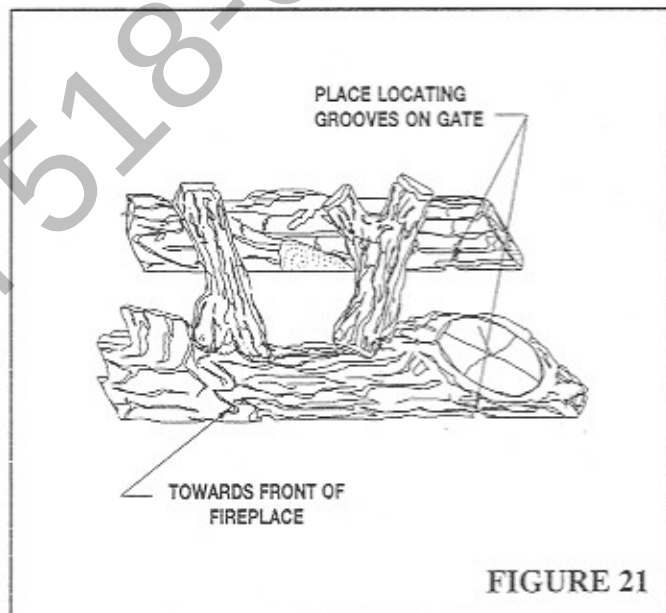

FIGURE 21
The Marco Custom 36 uses a standard custom four (4) piece log set. Placement has been marked on the front and back log to provide the exact location. See Figures 21 and 22 for proper placement.
The Marco Custom 36 four (4) piece log sets are provided with alignment slots to ensure proper spacing and location. Refer to Figure 21 and 22.
STEP 1: Locate back log by using grooves on the bottom. See Figure 21.